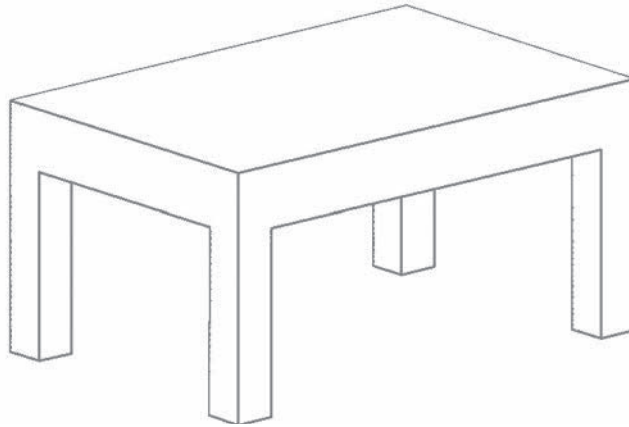

Fig. 45-12
4. Use the **PRESSPULL** command to remove two rectangular boxes from the first one to form the basic table shown in Fig. 45-12. The legs are **.5** unit wide and the table top is **.75** thick.